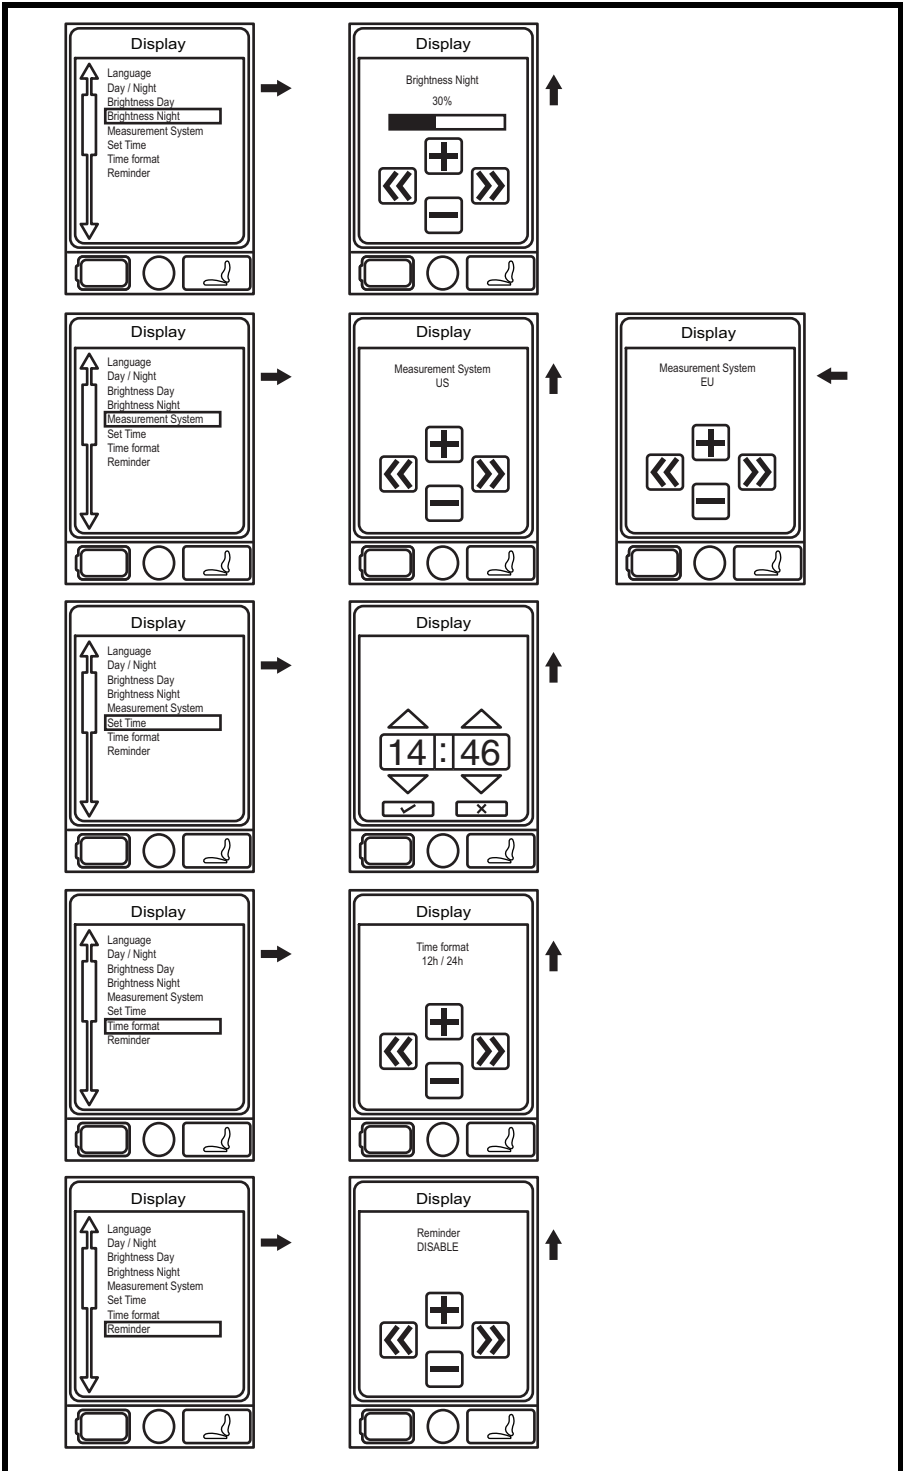

Figure 2B. Menu Screens
2. Push the Menu button to access the Main Menu screen. **See figure 2B.**
3. Use the joystick to highlight the Handcontrol Settings option, then push the joystick right to select that function. **See figure 2B.**
6. Use the joystick to highlight the Max option, then push the joystick right to select that function. **See figure 2B.**
7. Push the joystick left to select the ESC option and return to the Sound & Display menu. **See figure 2B.**